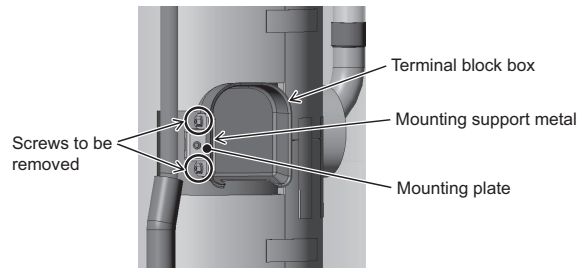

Figure 6
- (6) Remove the cover of the compressor terminal block box, mounting support metal, and the mounting plate by unscrewing the two screws. (See Figure 6.)